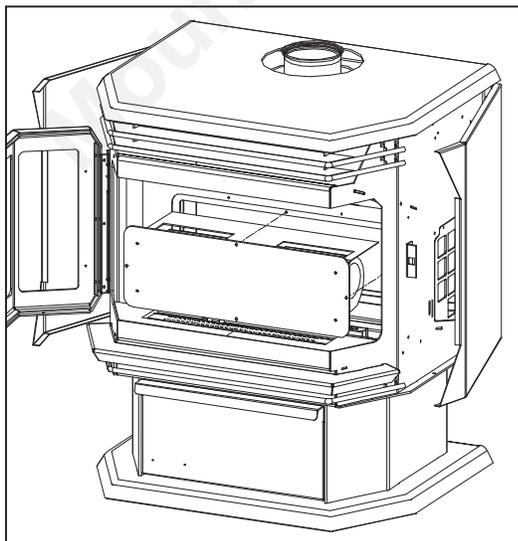

Figure 7: Blower (Fan) Removal.
4. Remove the four (4) $\frac{5}{16}$ " bolts that hold the blower mounting plate to the back firewall. Use a light lubricating oil on screws before removal.
5. Carefully pull the blower assembly into the firebox (see Figure 7) disconnect the blower leads from the harness and remove blower.